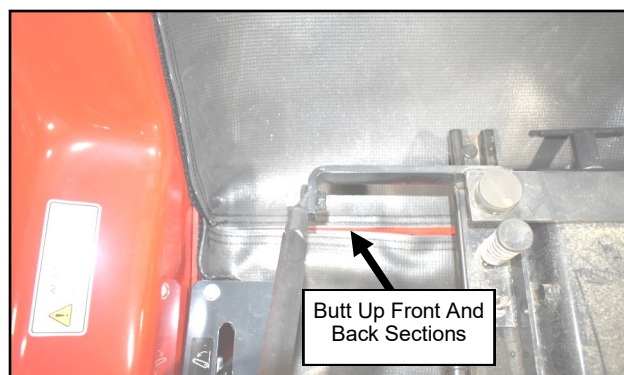

Fig. 21.7 (Install Under Seat Filler)
- 21.7 Secure the middle split in the under seat filler on the right hand side so that the front and back sections butt up to each other. See Figure 21.7. There is a corresponding strip of Velcro on the middle of the left side of the filler that can be accessed from the back of the tractor below the cab.